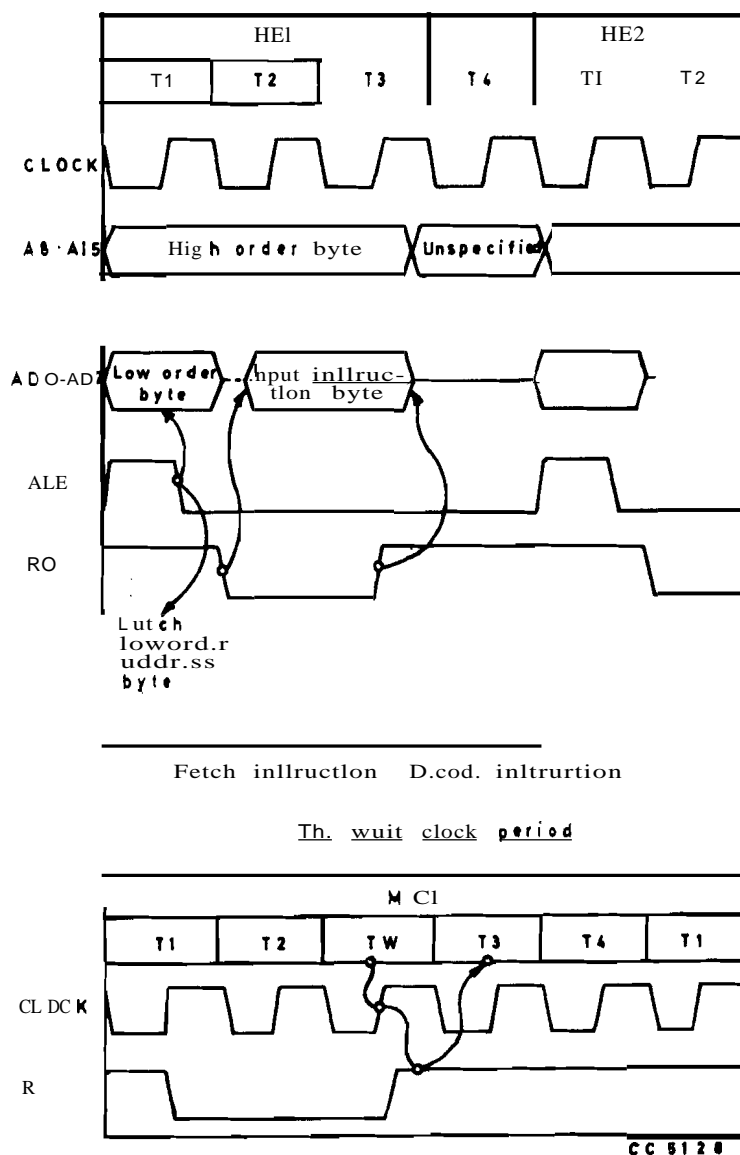

Fig. 8 Machine cycle. Wait state and Fetch instruction (AAOZ)
- (1) Program counter is cleared.
- (2) Instruction register is cleared.
- (3) Interrupts are disabled.
- (4) All tri-state bus lines are floated (ALE is not tri-state).
55. Wait states. The operation of the c.p.u. is directed into read and write sequences called machine cycles. These may contain from 3 to 6 clock cycles (or T states) with the instruction fetch MCI containing a minimum of four T states and the remainder three (see Fig. 8). A memory read must occur within three clock periods for in this time IC3 places the input into the instruction register.